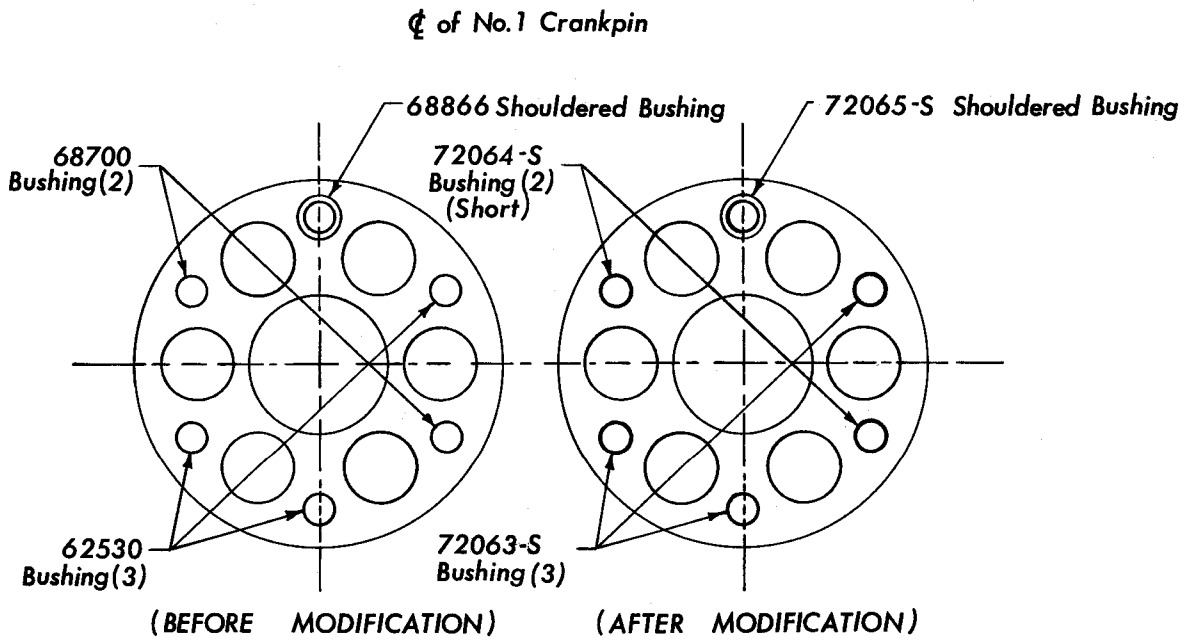

Figure 1. Location of O-340 Crankshaft Flange Bushings
Reverse the puller and insert the new bushing (Lyc. P/N 72065-S). See Figure 1.
- d. Use the puller to remove the two (Lyc. P/N 68700) bushings. See Figure 1. Reverse the puller and install the two (Lyc. P/N 72064-S) bushings.
- e. Remove the remaining three (Lyc. P/N 62530) bushings. Figure 1. Install the new bushings (Lyc. P/N 72063-S).